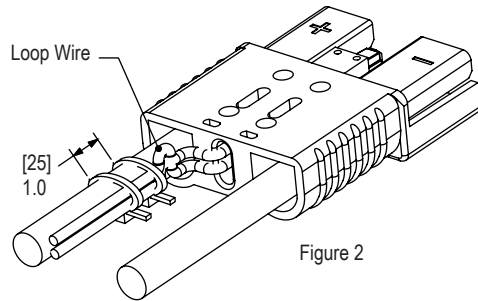

Figure 2
7. Cable ties are supplied to secure the auxiliary leads or cable to one of the main power cables. Leave slack or loop in leads to Powerpole contacts when applying cable ties. Wraps to be placed approximately 1 inch (25.4mm) apart as shown in Figure 2.